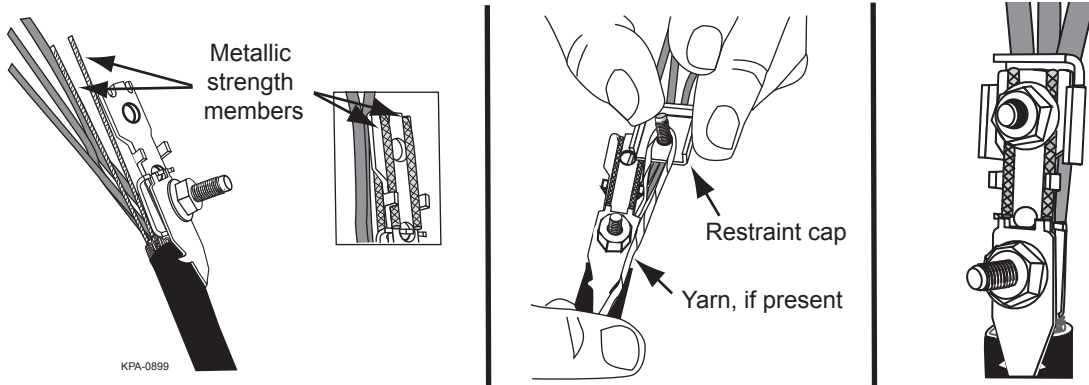

Figure 8
If strength members are metallic, order p/n UCN-GND-SC20 separately to secure the strength members. Bend them over the slots in the extension bracket of the bond clamp as shown in the inset in Figure 8 and then trim excess.
- Step 1:** If aramid yarn is present, wrap yarn twice in a clockwise direction around the restraint cap stud (Figure 8 — vinyl tape not shown for clarity).